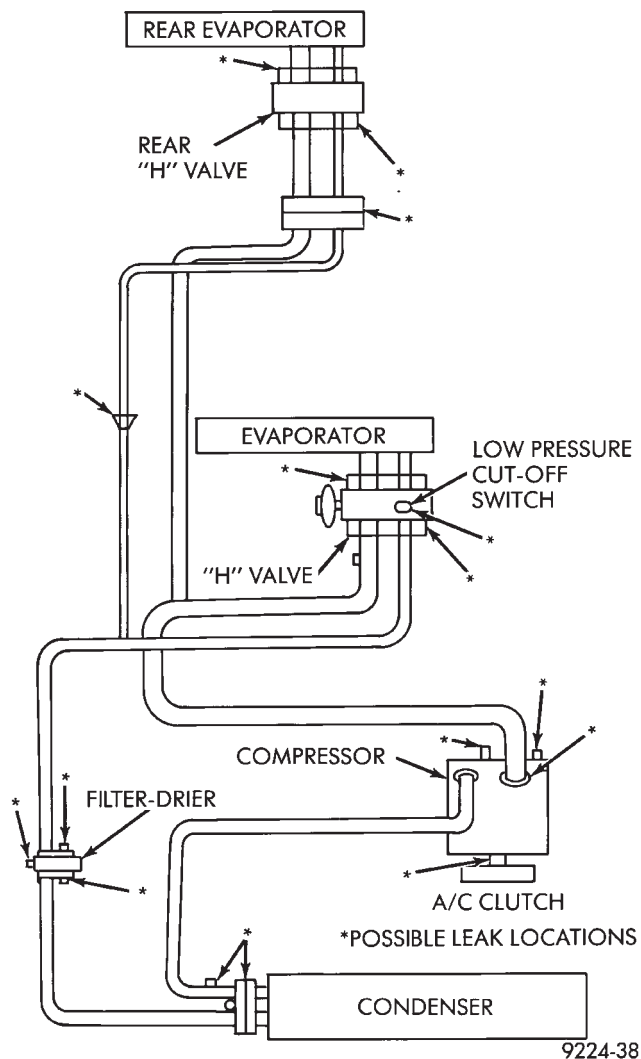

Fig. 6 Testing for A/C Leaks—Typical Front/Rear A/C System
(1) Using the refrigerant level sight glass, determine if there is any (R-12) refrigerant in the system.
(2) Position the vehicle in a wind free work area. This will aid in detecting small leaks.
(3) Bring the refrigerant system up to operating temperature and pressure by allowing the engine to run for approximately five minutes.
(4) With the engine not running, use an Electronic Leak Detector (or equivalent) and search for leaks. Fittings, lines, or components that appear to be oily usually will indicate a refrigerant leak. To inspect the evaporator core for leaks, it is possible to insert the leak detector probe into the recirculating air door opening (Fig. 6).